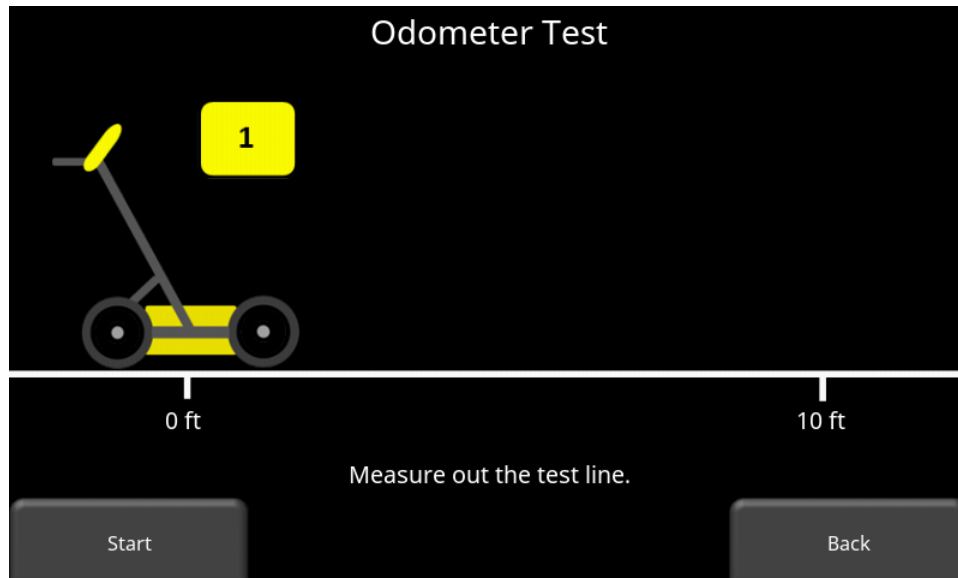
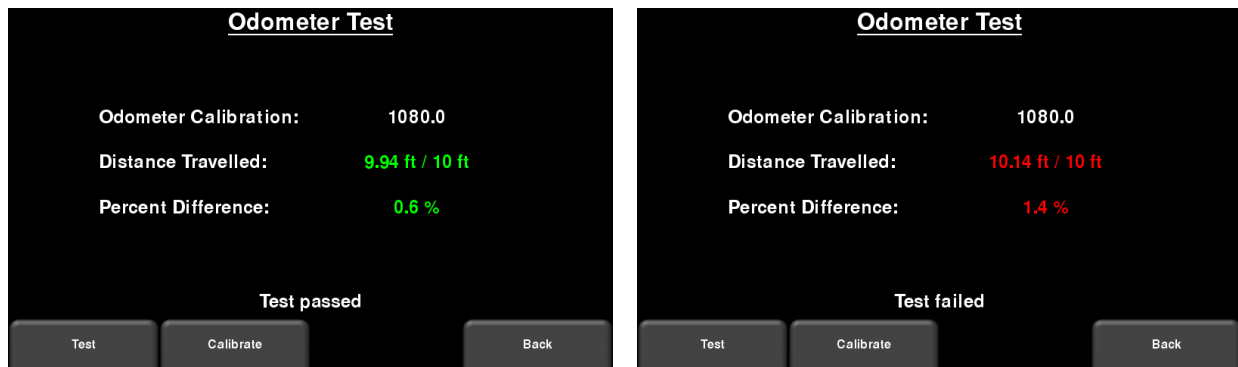

Figure 4-17: Doing an odometer test
Figure 4-18: Odometer Test passed on left, failed on the right.
- Odometer Test** – This test verifies the odometer is calibrated properly. It involves moving the system a set distance (5m or 10', depending on units used), and comparing the value obtained to a known value. The screen in Figure 4-17 will be displayed once Odometer Test is pressed. Press **Start** to begin and then press **Finish** when you've moved that distance. It will display a pass or fail, along with a percentage difference from the known value (Figure 4-18).